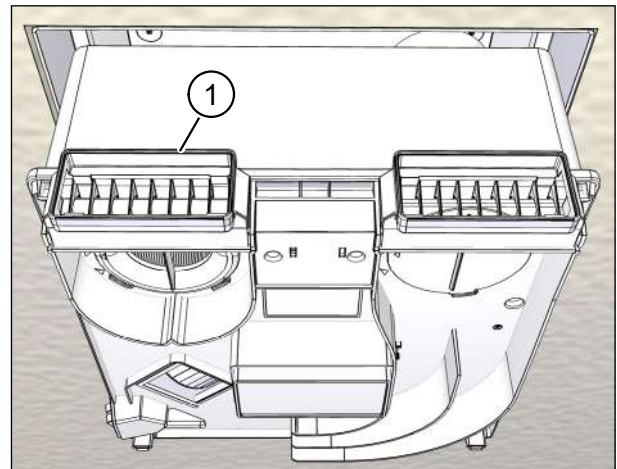

Fig. 40: Fixing the ventilation unit – U2 integrated into wall installation
Wet the top edge of the adapter (item 1 in Fig. 40) with washing-up liquid or Vaseline so that the ventilation unit slides more easily into the installation kit.